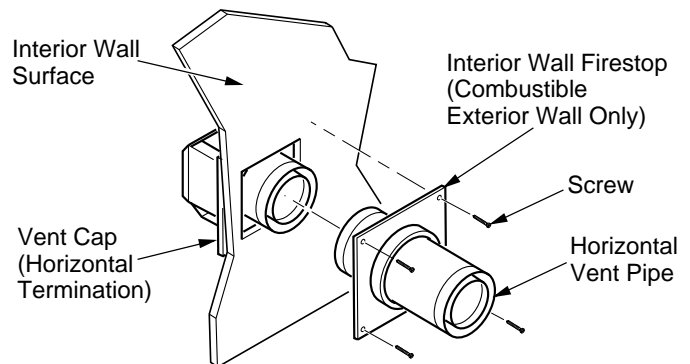

Figure 24 - Connecting Vent Cap with Horizontal Vent Pipe
- Combustible Exterior Wall Only:** Slide the interior wall firestop over the vent pipe before connecting the horizontal run to the vent cap (see Figure 24).
- Combustible Exterior Wall Only:** Slide the wall firestop against the interior wall surface and attach with screws provided (see Figure 24).